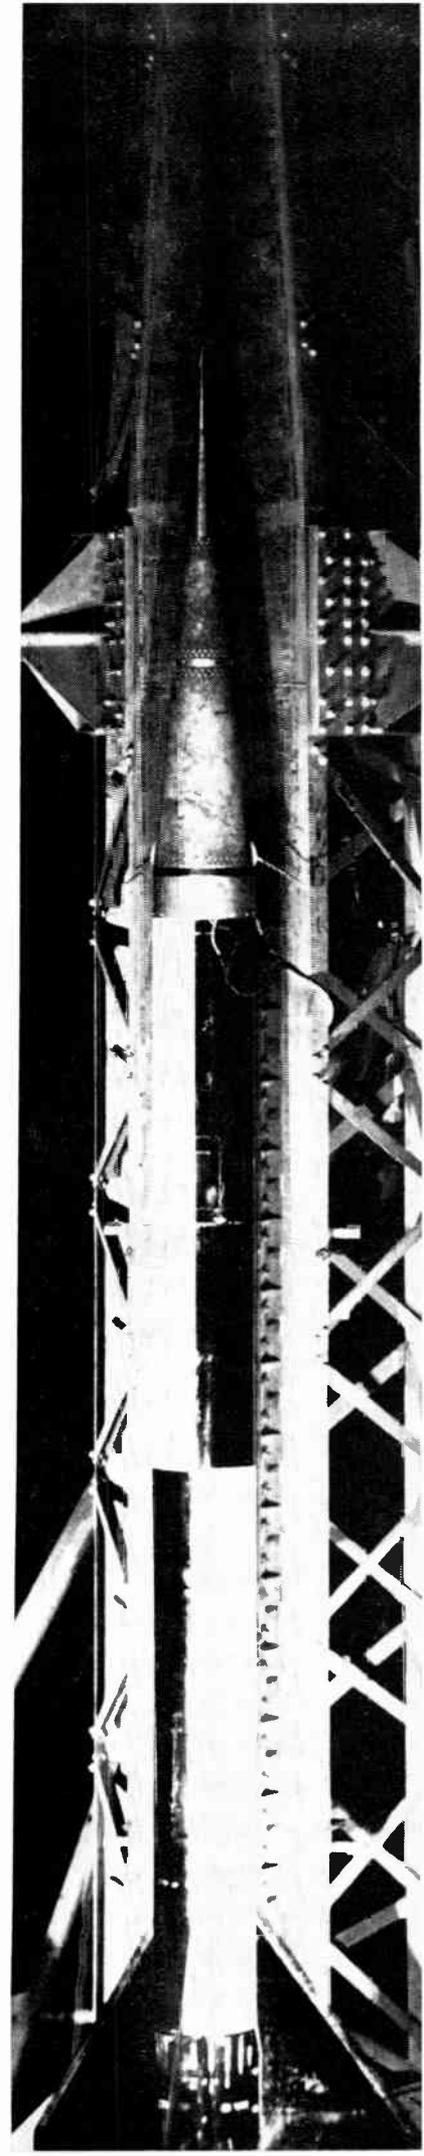

Figure 4. (left) Balloon being filled with helium. Radiometer instrumented gondola is mounted on the launching deck of truck.
prove sensitivity. Still other gondolas have been built and flown by CARDE, or by CARDE in conjunction with the University of Saskatchewan, and are instrumented with spectrometers to study airglow phenomena(1) or radiometers to measure integrated radiation backgrounds (Figure 4). A gondola consist-